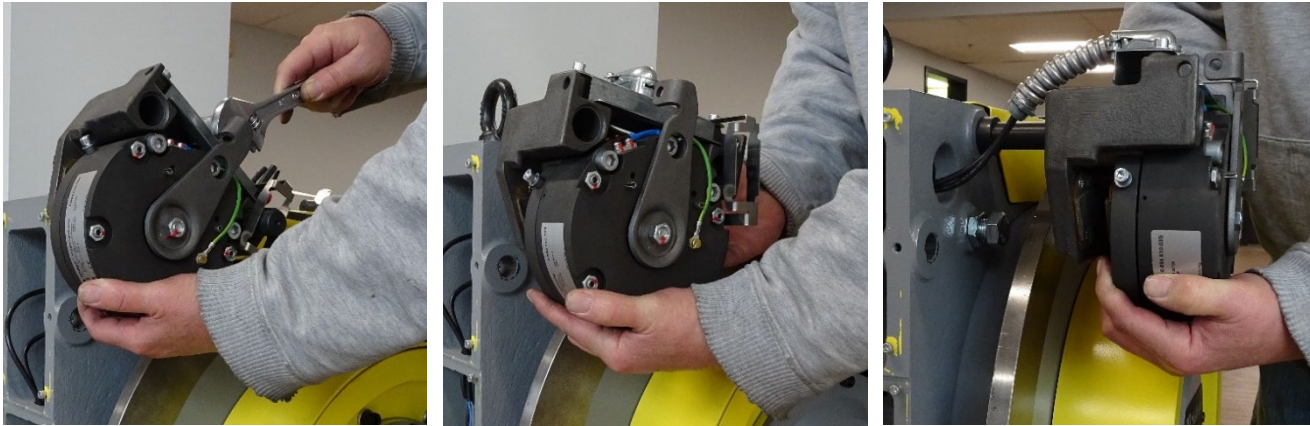

Figure 40
8. Slide the brake off the remaining brake pin and transfer it to a convenient work surface (Figure 40).